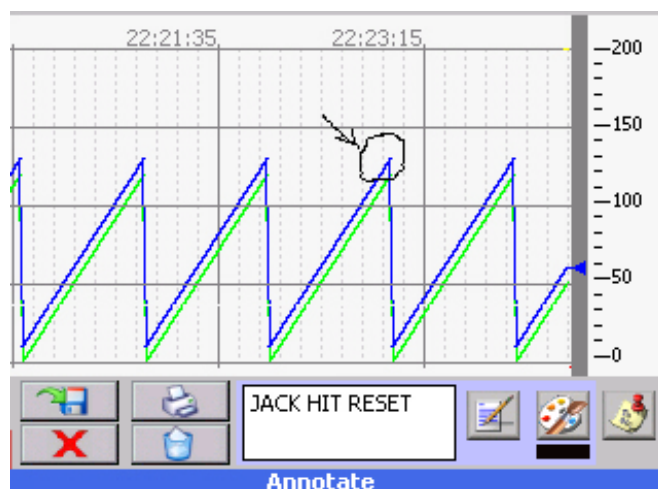
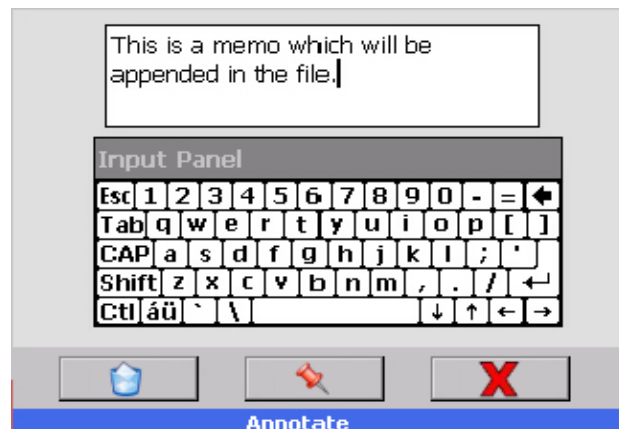

Figure 4-12.2 Annotation Screen
Figure 4-12.4 Text Message Editor
-  Tap this Place Text icon to place the text in the text dialog box. It is necessary to *first enter text* in the box (which contains the words "JACK HIT RESET" in Figure 4-12.2.) After tapping the icon, tap the position on the screen where you want the text to be place. The text is placed to the right of your tap position.
Enter the Text Message Editor by tapping the icon shown on the Annotate Screen - Figure 4-12.2. The Text Message Editor is shown in Figure 4-12.4. Any message can be entered in the text box as shown.